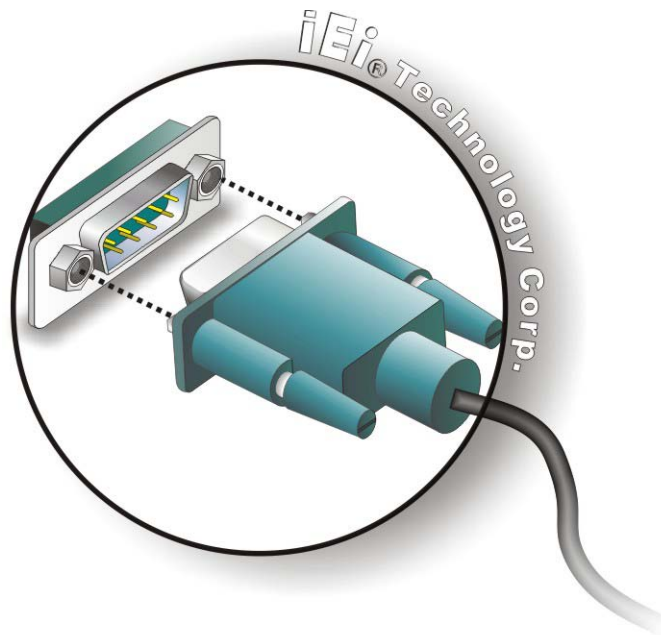

Figure 4-28: DB-9 Serial Port Connector
Step 2: Insert the serial connector. Insert the DB-9 connector of a serial device into the DB-9 connector on the bottom panel. See **Figure 4-28**.